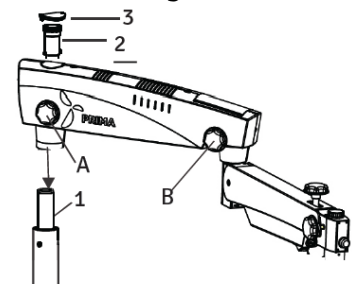

Fig. 38
3. Remove the arm assembly from the box and follow the instructions below (see Fig.38).
Do not unscrew knob A completely. see fig.38.
- B. Place the arm assembly on the column shaft (1) shown in Fig. 38.
- C. Screw in the threaded plug from the top (2).
- D. Put the protective cap (3) in place, and loosen the suspension arm locking knob (B) so that it can be rotated.